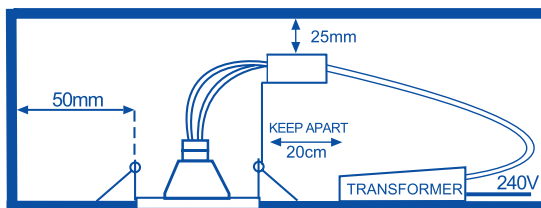

Fig. 1
2. Select the required position for the luminaire ensuring the clearances shown in Fig.1 are observed. Beware of joists, water pipes and electric cables. Use the cut-out template on the inside lid of the box to cut a hole in the ceiling for the type of luminaire to be fitted.